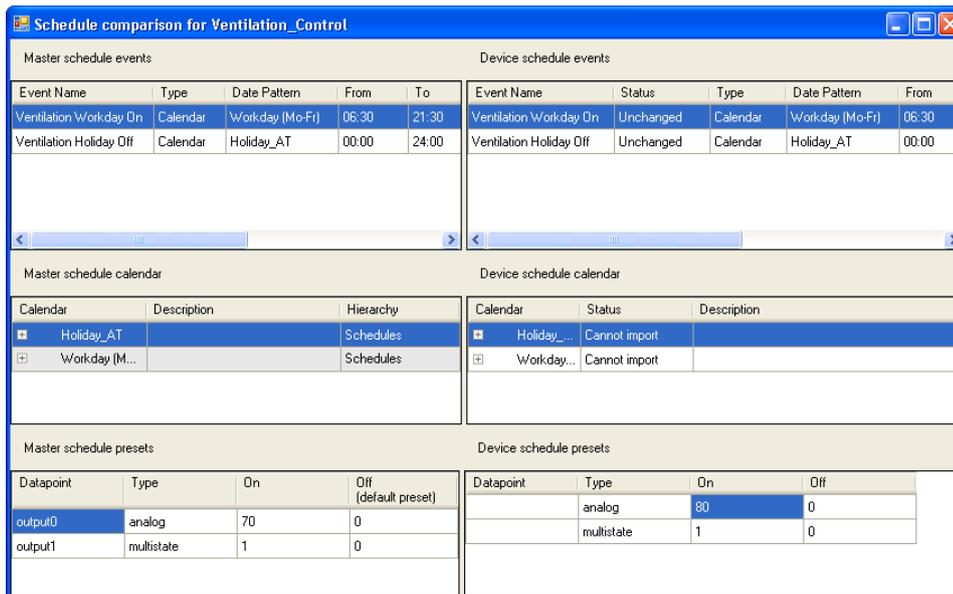

Figure 133: Schedule Comparison
4. To find out more about why the upload did not work, double click on the scheduler in the upload dialog. The pop-up window shows on the left side the scheduler as configured in LWEB-900 and on the right side the changes made on the device (see Figure 133).